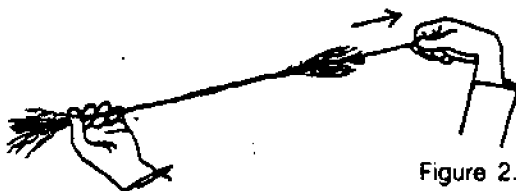

Figure 2.
7. Put the fibers back together and give the whole bundle five or ten twists. Now pull out a few of the fibers (Figure 2). How is this different from pulling the untwisted fibers?